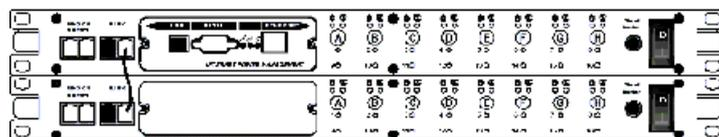

Figure 4 - Cascading two units
6. Make sure that the second unit has the terminator plugged into the cascade port (see Figure 4).